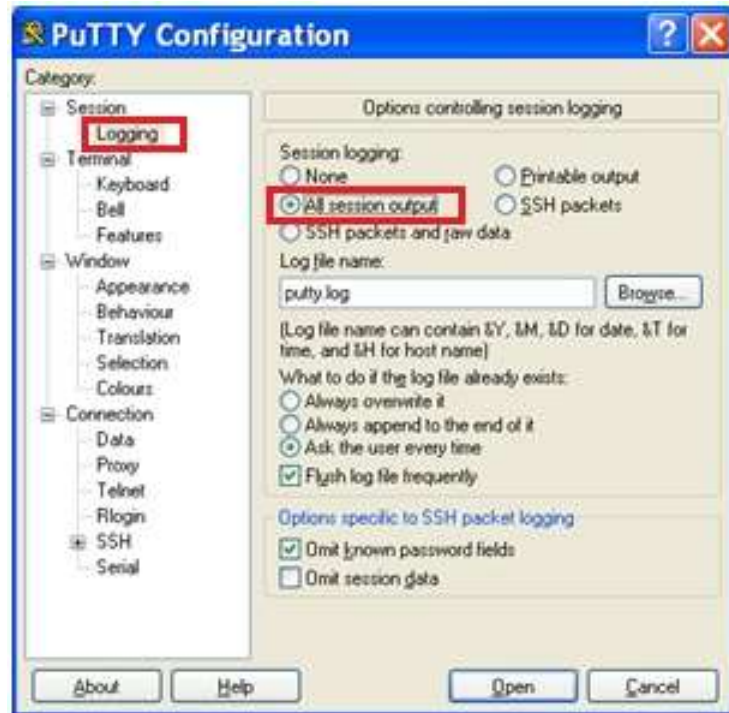

Figure 27: PuTTY software Logging screen
- ➔ Click **Logging** from the list on the left (see Figure 27).